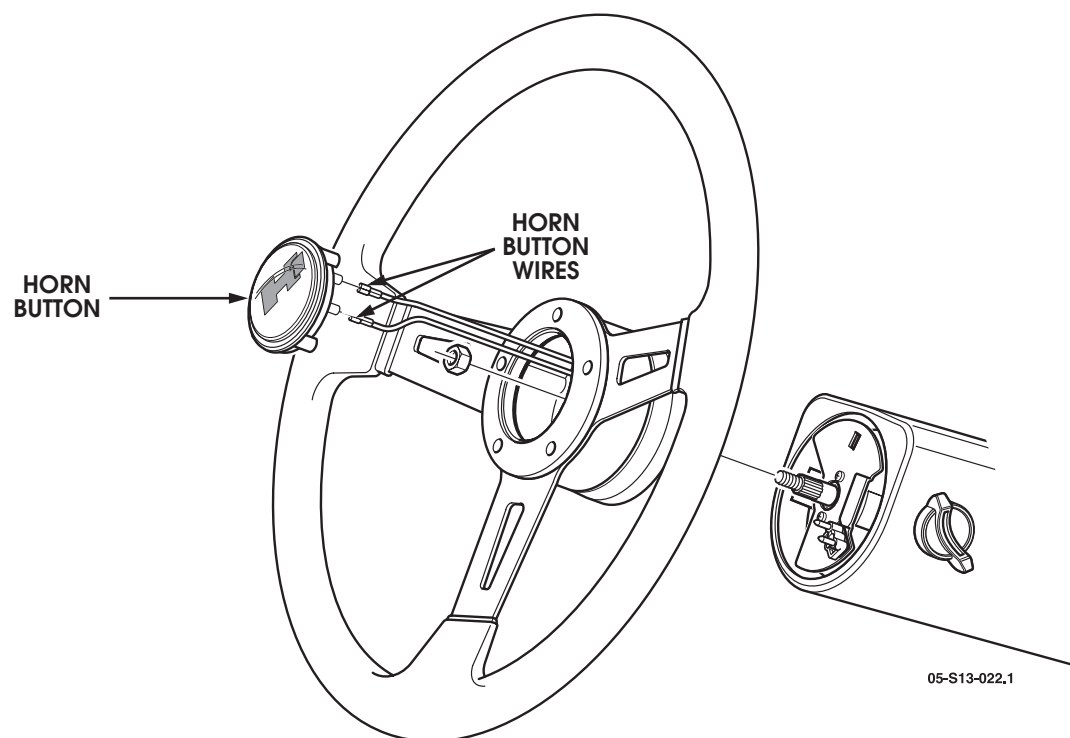

Figure 3: Steering wheel and horn button.
8. Install the new steering wheel and tighten the nut to 35 lb.-ft (47 N•m) (See Figure 3).